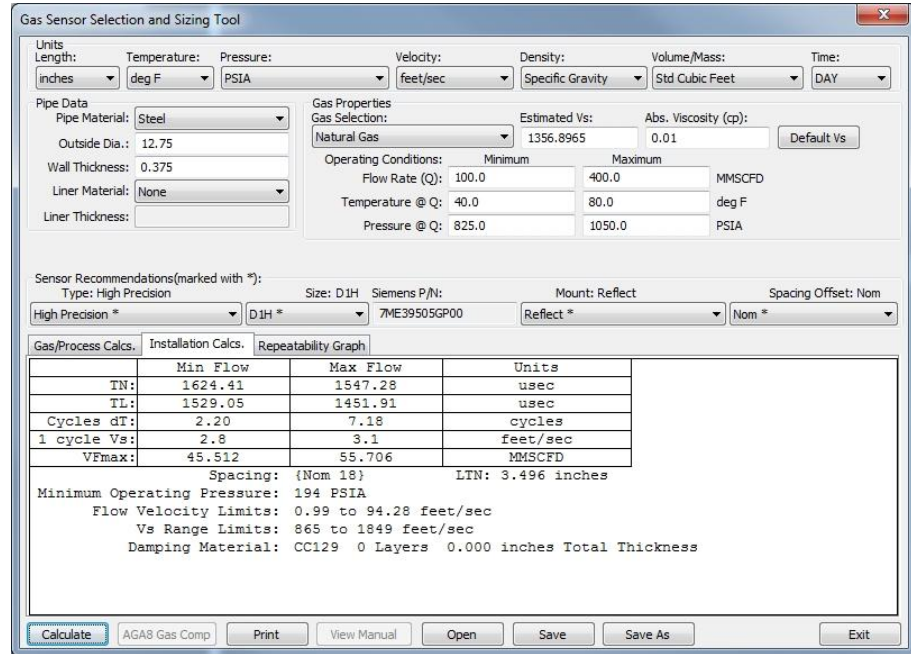

Figure 6-4 Clamp-On Gas Sizing Tool screen
- Click the [Calculate] button. The FS200 Clamp-On gas tool will compute the recommended sensor type and size for your specified pipe. Typically, only High Precision sensors are suitable for gas applications and will be the primary selection. The tool will also provide sensor mounting mode and spacing information. An example appears in Figure 6-4 below.